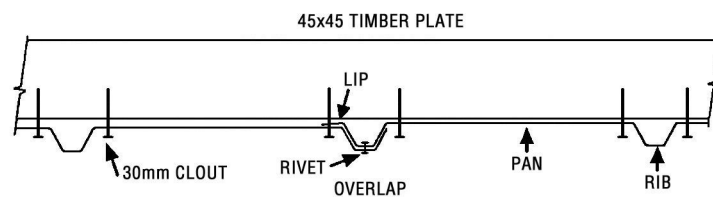

fig. 1
When fitting Gable End Sheets ensure they overlap correctly (**fig 1**).
Step 2: Back Wall: Position the first Wall Sheet with the LIP on the right hand side. Ensuring the LIP is flush with the side of the corner Stud and the top of the Wall Sheet is flush with the top of the Top Plate, tack in place. Position the next Wall Sheet with the LIP on the right hand side. Overlap as shown in **fig 1**. Ensuring Wall Sheet is flush with top of Top Plate, tack in place.